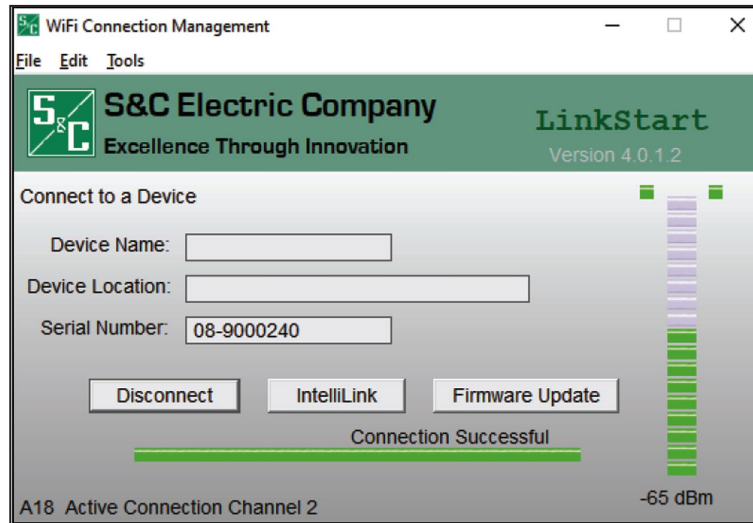

Figure 16. The connection successfully completed indication.
STEP 5. When the connection is successful, click on the **Firmware Update** button. See Figure 16.